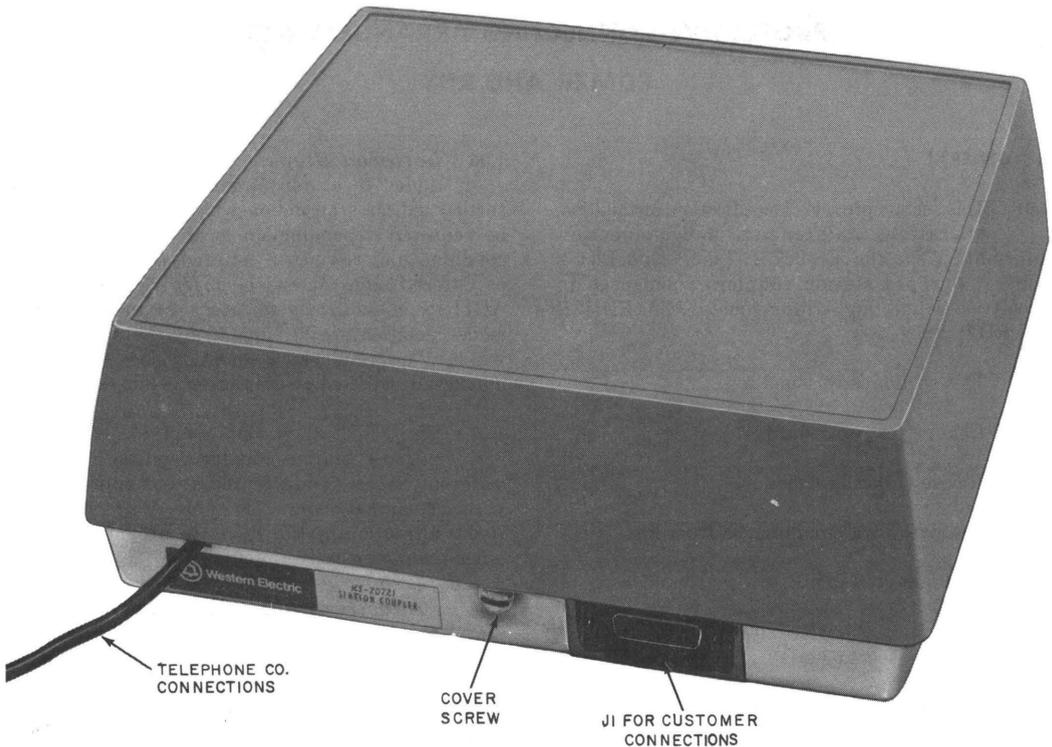

Fig. 1—KS-20721, List 1 and List 2 Station Coupler
1.03 The KS-20721 station coupler (Fig. 1) is used to provide services similar to those provided by the KS-19522 recorder coupler for answering sets and recorders. However, the plug and wiring connections may be different and substitution should not be made without customer approval.
- Coupler, Station, KS-20721, L1 (Fig. 1 and 2)—used for PCA RDMZR
- Coupler, Station, KS-20721, L2 (Fig. 1 and 3)—used for PCA RDY
3.02 A 15-pin connector (J1, Fig. 1) is located on the base of the unit to connect the transmission